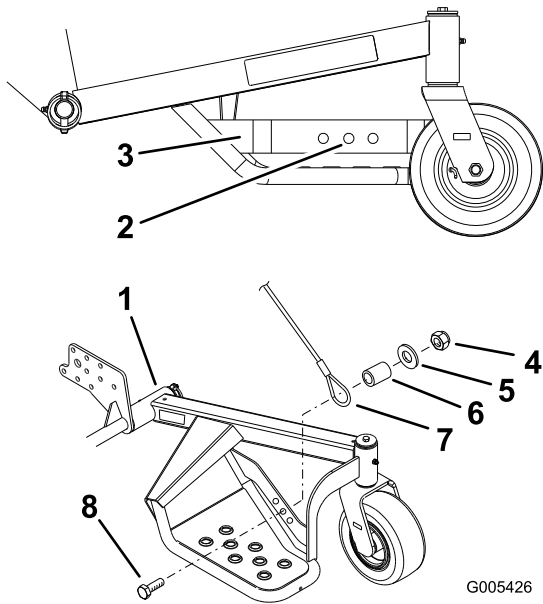

Figure 12
1. Install the nut (5/16 inch), small washer, spacer, lanyard and bolt (5/16 x 1-1/4 inches) into the center hole (Figure 12).
Note: The sulky transport position can be raised or lowered by using the three different holes in the sulky side support (Figure 12).